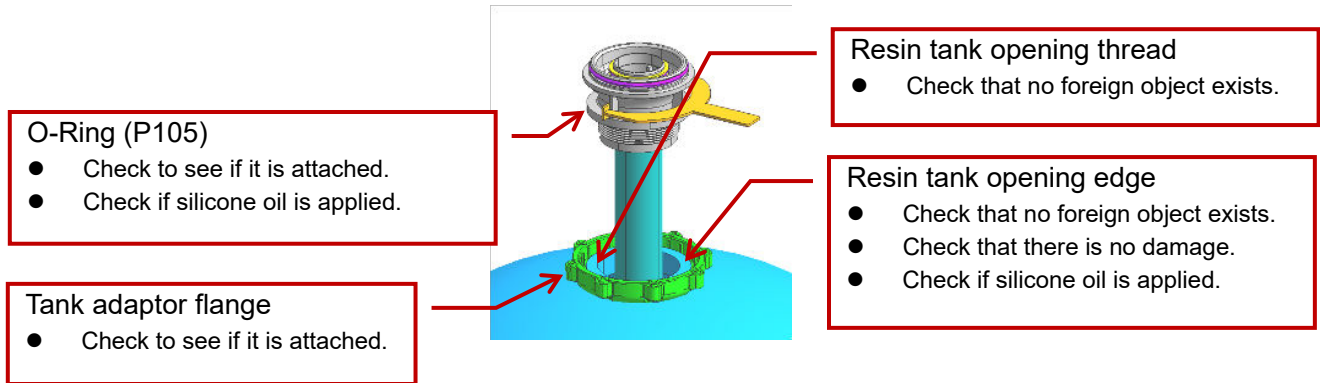

Figure 5-5 Tank Adaptor Mounting
- (1) Before proceeding, read the precautionary items in Figure 5-5 first, then attach the tank adaptor assembly by backtracking the steps from the way it was disassembled. If insertion of tank adaptor is difficult, fill the resin tank with water up to the top of resin later and then attach the adaptor.